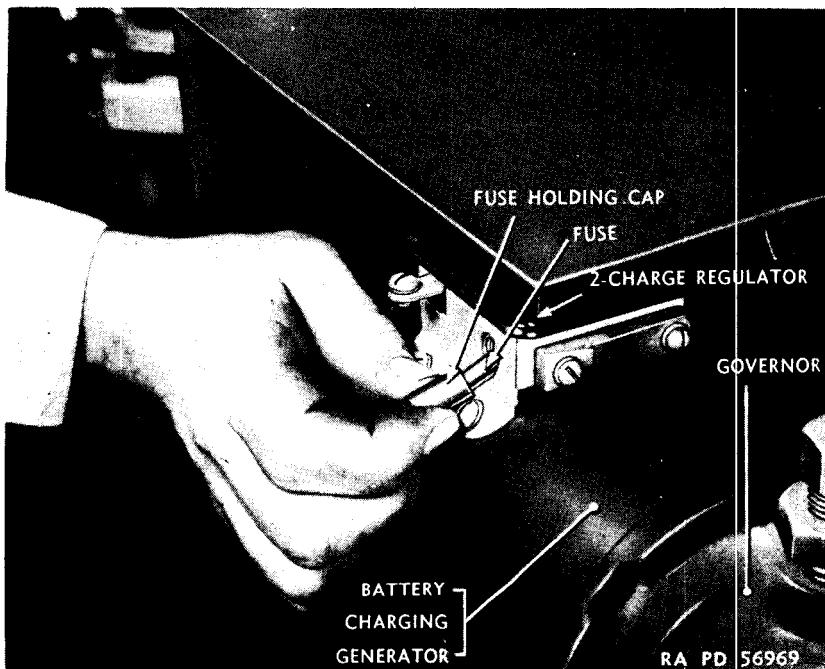

Figure 64—Voltage Regulator Fuse
a. **Construction.** The battery-charging generator is a 2-pole, shunt-wound, third-brush regulated, ventilated unit with a capacity of 6 volts. A 2-charge voltage regulator is mounted on the generator frame, and combines the cut-out with the regulator. A 5-ampere fuse (fig. 64) is mounted in the regulator.